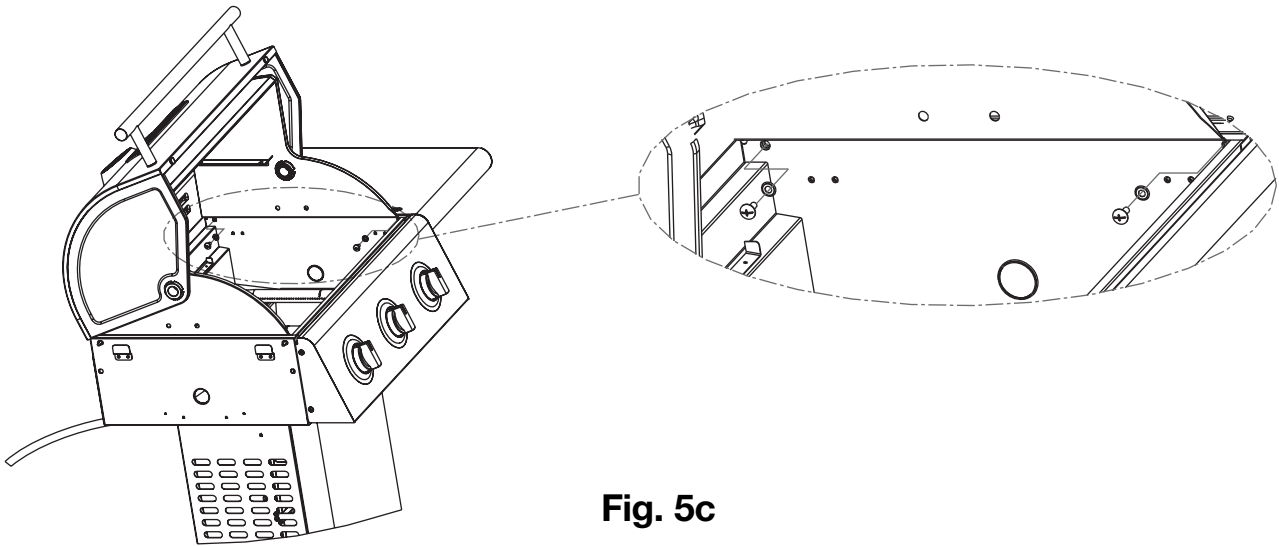

Fig. 5c
3. From the inside of the firebox, attach the right shelf with two (2) M6 x 13 screws and two (2) M6 compression washers as shown in **Fig. 5c**.